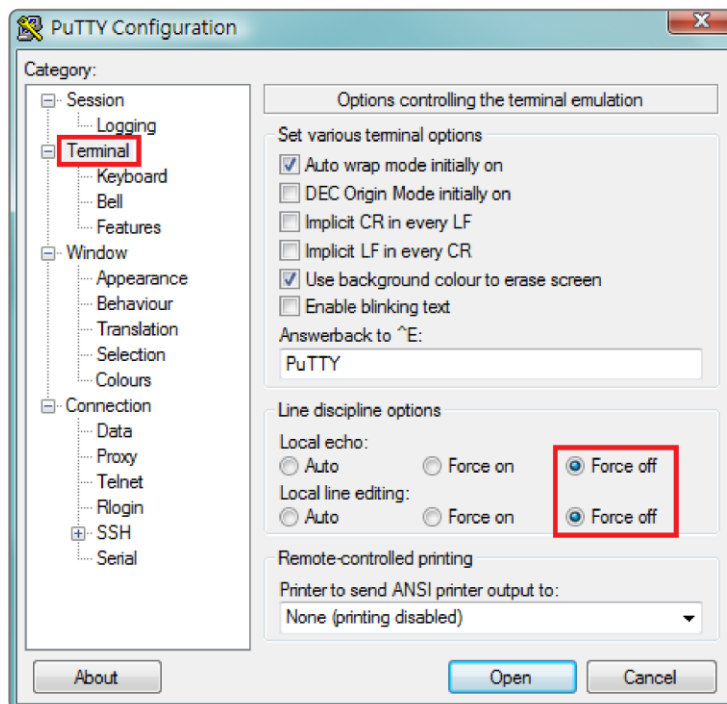

Figure 5. The PuTTY Configuration window.
**Note:** If using PuTTY to configure SSH access, please configure Line discipline of Terminal to “Force off”, as shown in Figure 5.